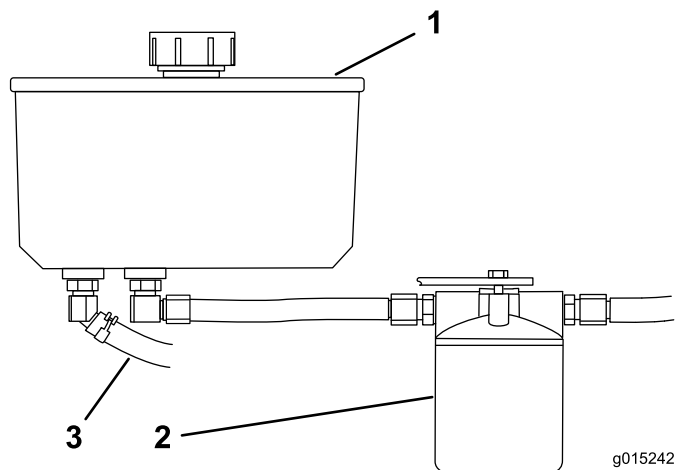

Figure 75
4. Locate the front hydraulic hose under the hydraulic tank and place drain pan under the tank (Figure 75).